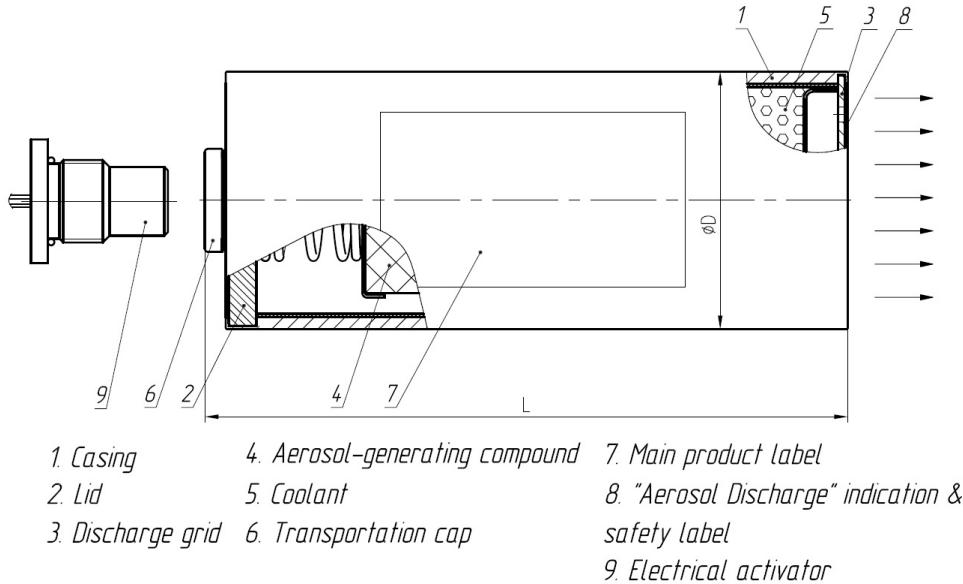

Fig.1 Generator of extinguishing aerosol – construction schematic
3.1. The delivery set includes (Fig 1):
5.1. Construction of the generator is shown in Fig.1